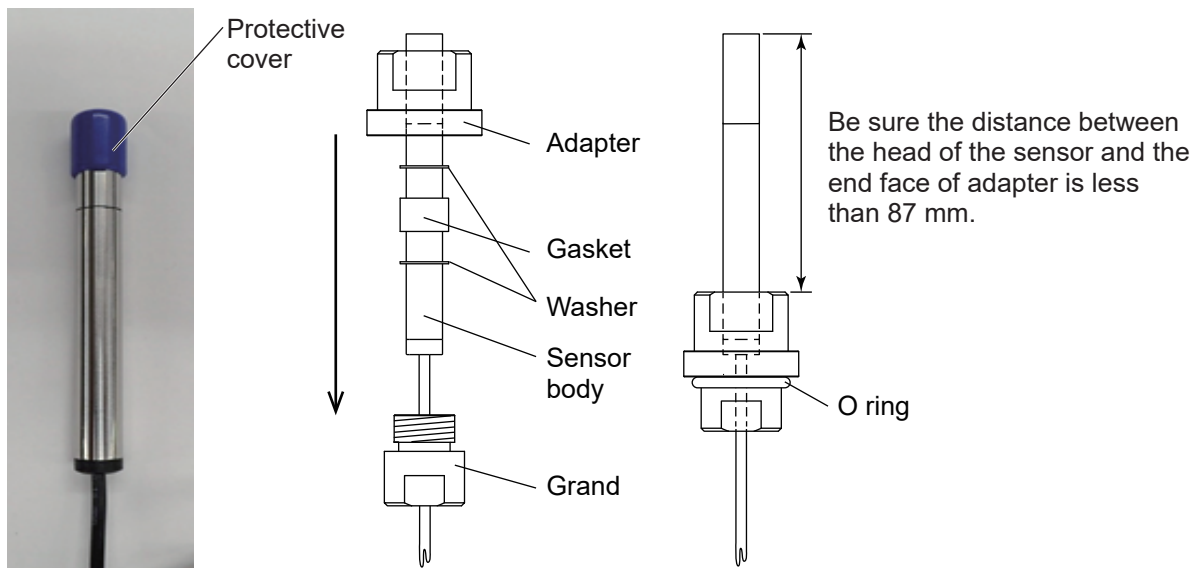

Figure 3.1 Adapter Installation on the sensor
1. Pass GLAND from the cable side and place the bottom of the sensor on GLAND as shown in the posture of the Figure 3.1.
3. Keep the posture and screw ADAPTER to about on the surface of GLAND. The sensor is positioned by screwing as shown in the posture of the Figure 3.1. The installation is correct if the distance between the head of the sensor and the end face of ADAPTER is less than 87mm. By positioning the sensor, the measurement point can be the same even after the reinstallation with maintenance works. Also, the installation position gets effective for cleaning in the case of cleaning system specification.